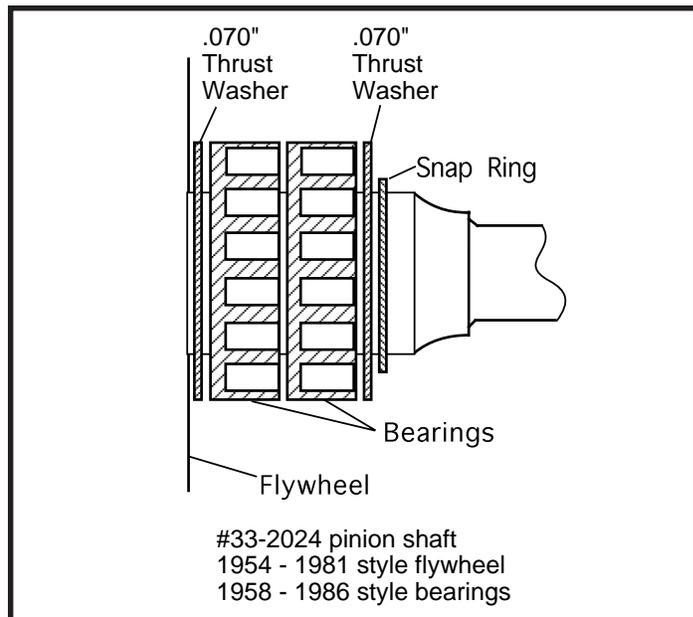

Figure 1
1. 1954 to Early 1981 stock flywheels or S&S SE or L style flywheels, and S&S pinion shaft #33-2024 - Two .070" thrust washers are normally used. Typical washer and bearing arrangement - .070" washer against flywheel, bearings, .070" washer, and snap ring. **See Figure 1.**